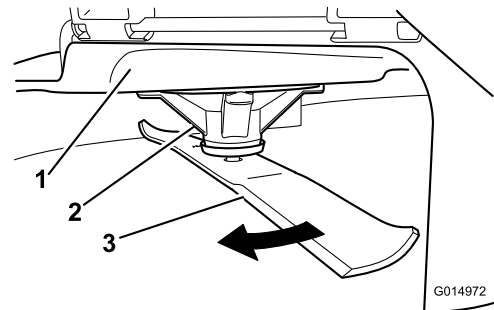

Figure 74
2. While wearing thickly padded gloves, or other adequate hand protection, slowly rotate the blade into a position that allows you to measure the distance between the cutting edge and the level surface the machine is on (Figure 74).